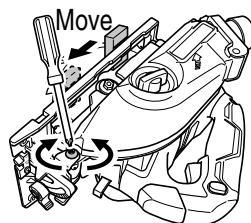

**Fig. 22**
- (2) Retract the lower guard into the saw cover. (**Fig. 22**)